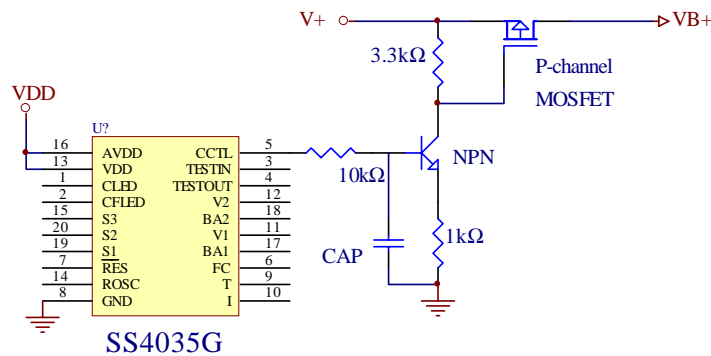

Figure 5. Charging Control
Figure 5 shows the linear charger mode for the SS4035G. The output of pin CCTL (5) is a pulse-width modulated (PWM) signal. This signal is translated to a DC voltage to control the P-channel